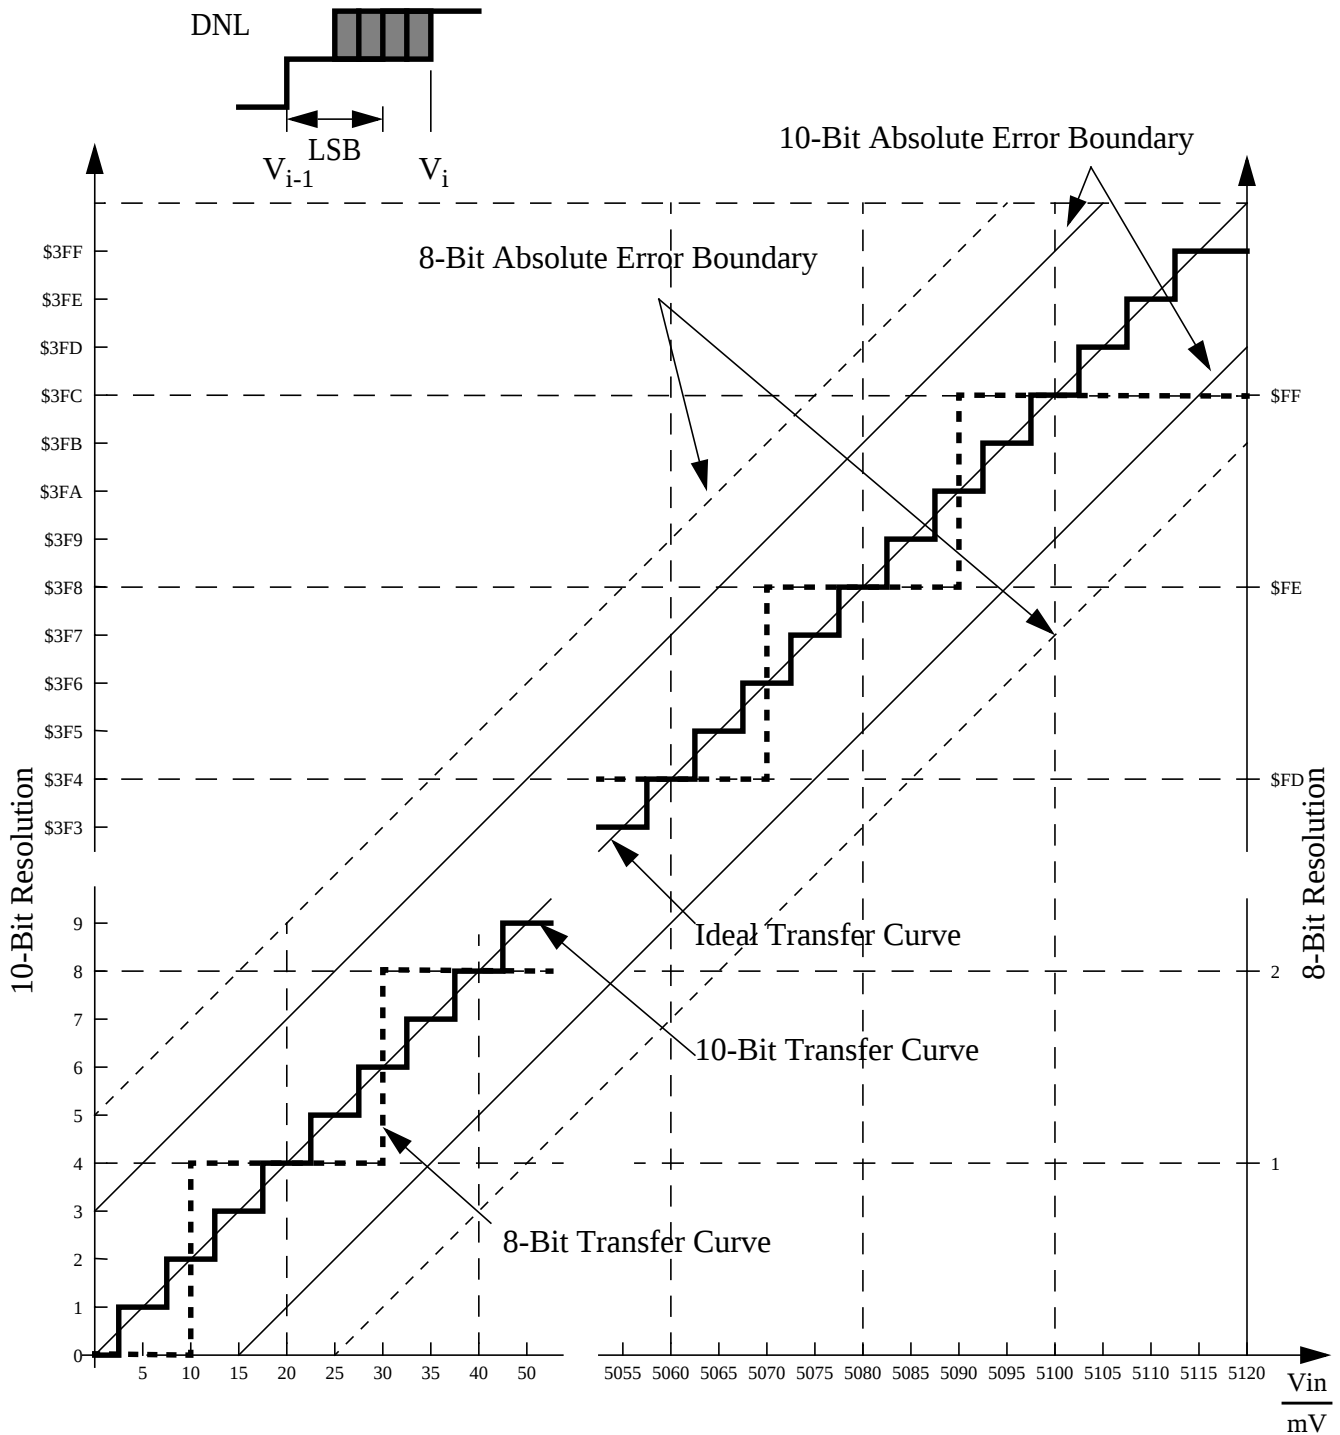

Figure A-1 ATD Accuracy Definitions
For the following definitions see also **Figure A-1**.
NOTE: Figure A-1 shows only definitions, for specification values refer to **Table A-13**.
6. Monitors V_{DD} , active only in Full Performance Mode. MCU is monitored by the POR in RPM (see **Figure A-1**)